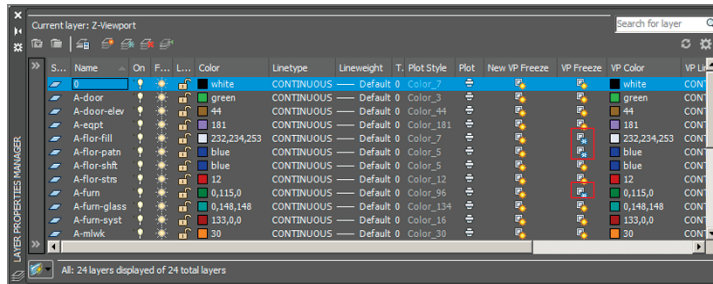

FIGURE 13.21 Freezing selected layers in the current viewport only
- Expand the palette to the right by dragging its edge. Observe a set of properties in columns preceded with the letters VP (viewport). Click the icons in the VP Freeze column for layers A-furn, A-flor-fill, and A-flor-patn to freeze them in the current viewport (see Figure 13.21).